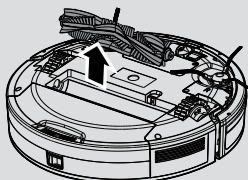

Fig. 12
3. Lift up the agitator by grasping one end of agitator. [Fig. 12]